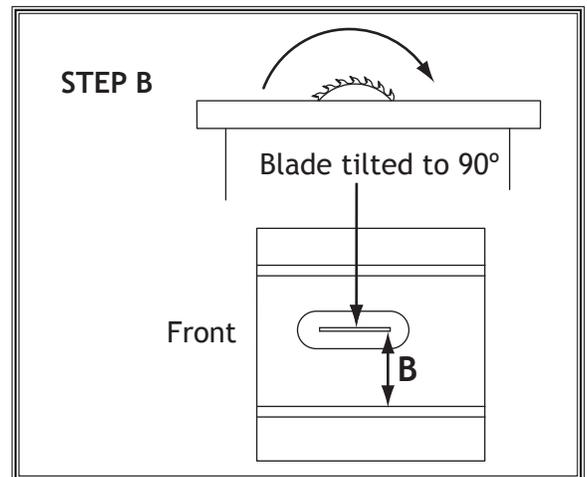

Figure 107. Making second slot-to-blade measurement at 90°.
5. Slide adjustable square down to other end of table insert and compare distance from marked blade tip to end of adjustable square, as shown in **Figure 107**.